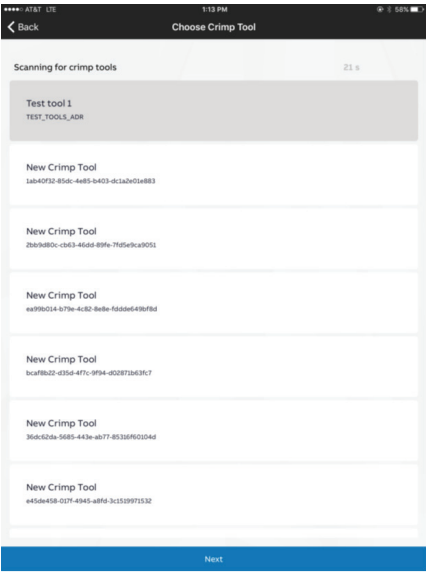

Figure 01
- Select **Setup** to specify tool (Figure 01)